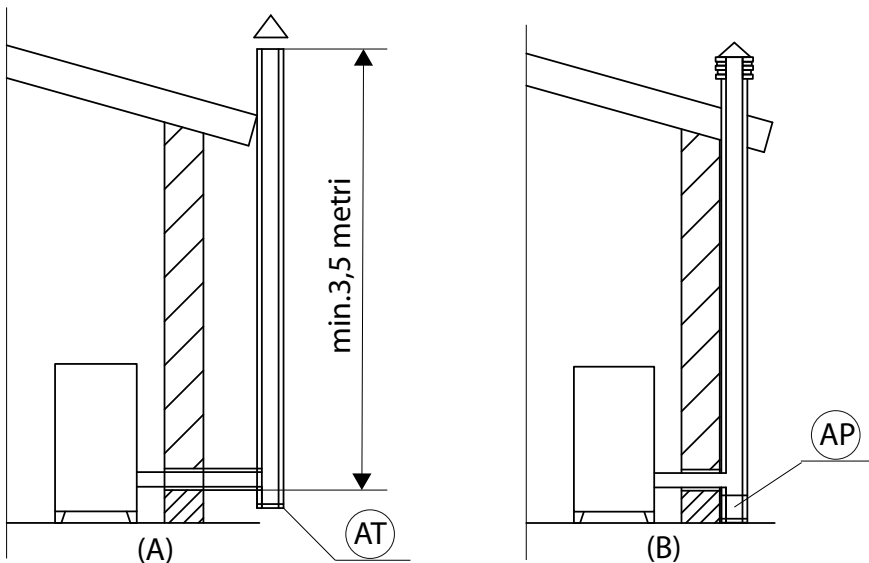

FIGURE 1 - FLUE
A simple air shaft made of cement must be suitably lined. In either case, ensure to include an inspection cap (AT) or inspection door (AP) and a suitable device for collecting condensation - FIG.1.
Smoke must be extracted through a single flue (see fig. 3) with insulated steel tubes (A) or through an existing flue that complies with the intended use (B). A simple air shaft in cement must be suitably lined. In either case, ensure to include an inspection cap (AT) and/or inspection door (AP) and a suitable device for collecting condensation - FIG.1.